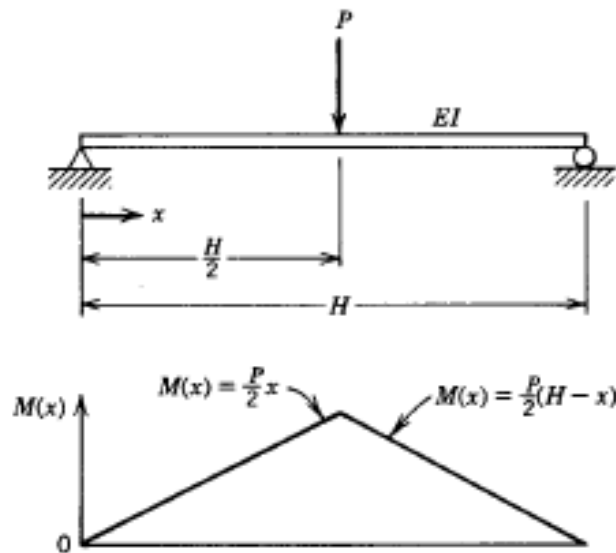

Figure P4.3
- Obtain an approximate displacement equation (two terms) for the simply supported beam shown in **Figure P4.3**. Compare the deflection at the center with the theoretical value $y = PH^3/48EI$. The governing differential equation is